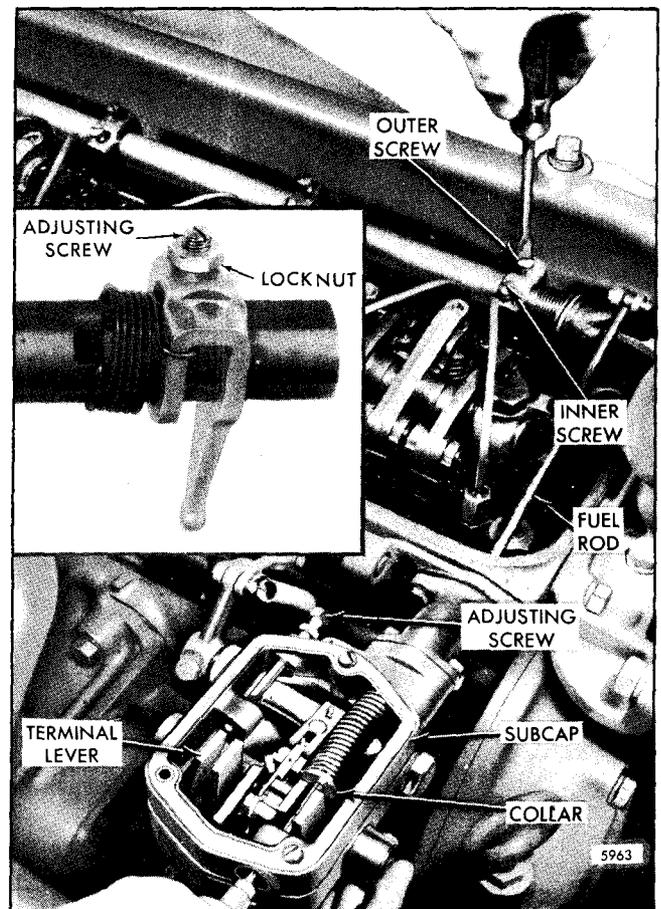

Fig. 2 - Positioning No.1 Injector Rack
1. Adjust the No. 1 injector rack control lever by tightening the adjusting screw until the injector rack clevis is observed to roll up or an increase in effort to turn the screwdriver is noted (Fig. 2). Tighten the screw approximately  $1/8$  of a turn more and lock securely with the adjusting screw locknut. This will place the No. 1 injector rack in the full-fuel position.